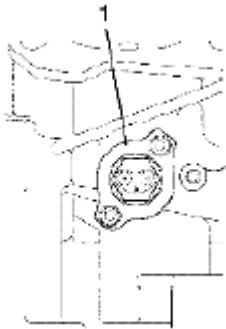

Fig. 165: Identifying Cylinder Block Heater
- Install cylinder block heater (1) in the direction as shown in **Fig. 165**.